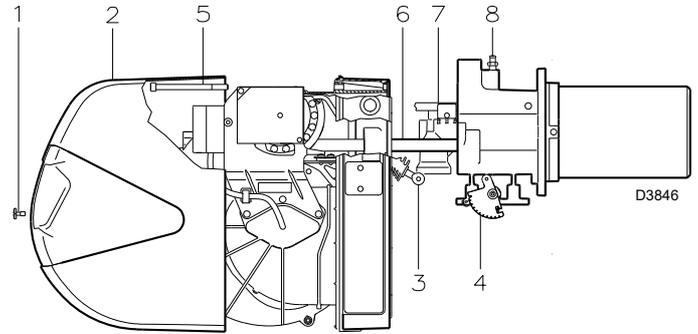
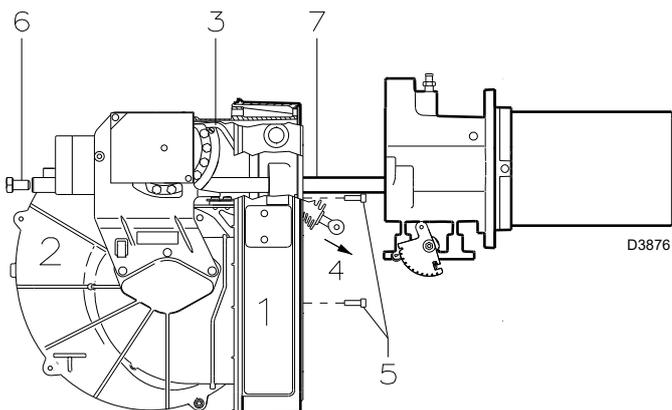

Fig. 37
Fig. 38
- Loosen the screw 1)(Fig. 37) and remove the hood 2).
- Disengage the articulated coupling 3) from the graduated sector 4)(Fig. 37).
- Remove the screw 5)(Fig. 37) only with the long head models; pull the burner back on the slide bars 6)(Fig. 37) for about 100mm.
- Now extract the gas distributor 7)(Fig. 37) after having removed the screw 8)(Fig. 37).
Assemble the inner part of the combustion head by tightening the screw 8)(Fig. 37) to a tightening torque of $4 \div 6 \text{ Nm}$
- Replace the screw 5)(Fig. 37) and carefully pull the probe and electrode cables outwards until they are slightly taut.
- Reposition the cover 2)(Fig. 37) and fix with the screw 1)(Fig. 37).
If it is necessary to carry out maintenance on the electrical panel 1)(Fig. 38), it is possible to remove only the fan unit 2)(Fig. 38), to allow improved access to the electrical components.
With the burner open as in Fig. 37, unhook the tie-rod 3)(Fig. 38), removing the screw on the adjustable profile cam, and extract it from the tip 4)(Fig. 38).
Remove the 3 screws 5)(Fig. 38) positioned on the protective cover.
Removing the 2 screws 6)(Fig. 38), it is possible to unthread the fan unit 2)(Fig. 38) from the slide bars 7)(Fig. 38).
Finally, you can use 2 of the 3 screws 5)(Fig. 38) to fix the electrical panel to the pipe coupling, in the points indicated in Fig. 39, and then carry out the maintenance operations.